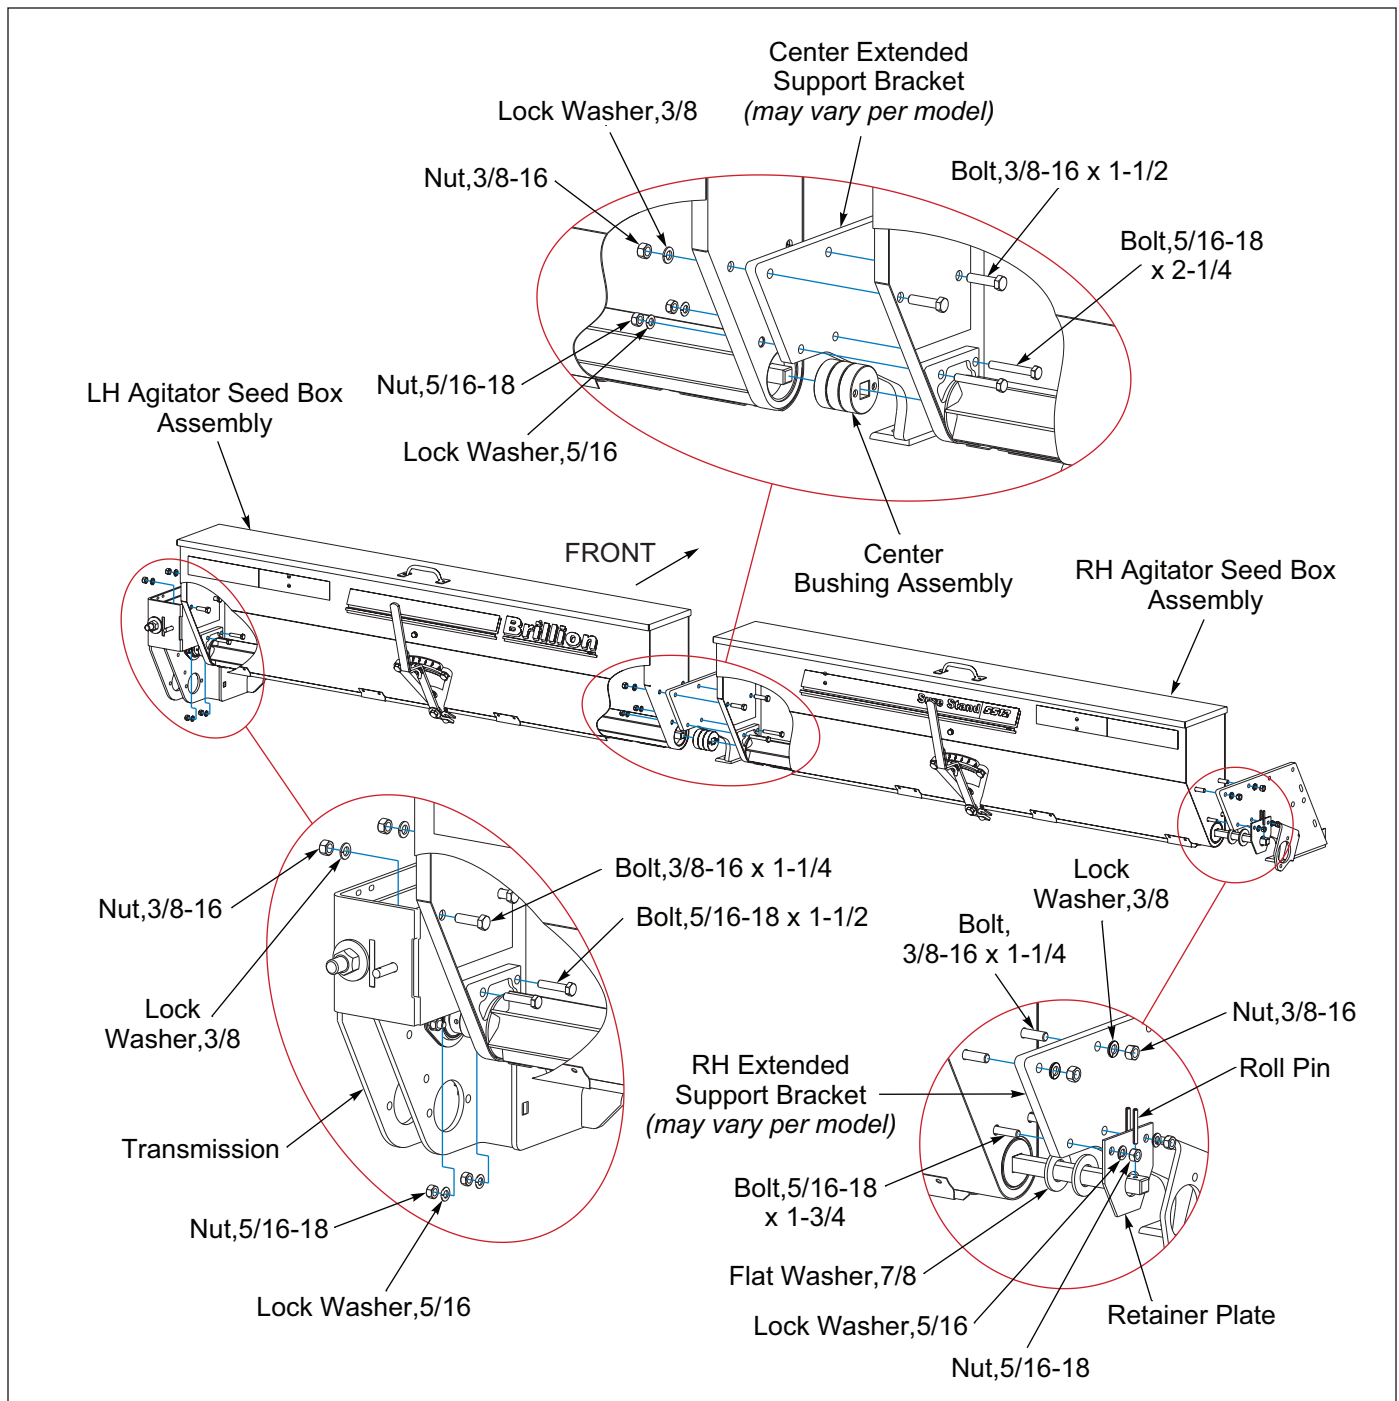

Figure 2-56: Left and Right Agitator Boxes
12. Assemble the LH Agitator Seed Box Assembly to the Transmission top holes with 3/8-16 x 1-1/4 Bolts and bottom holes with 5/16-18 x 1-1/2 Bolts. Secure with Lock Washers and Nuts. **See Figure 2-56.**
19. On the RH end of the RH Agitator Seed Box Assembly, place two 7/8 Flat Washers on the Agitator Shaft. **See Figure 2-56.**